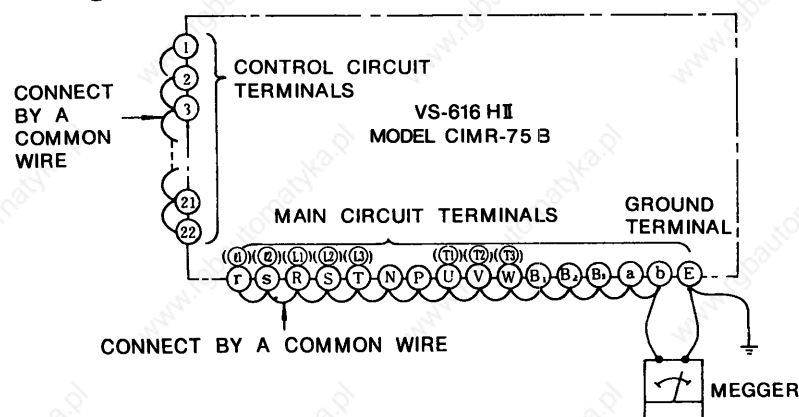

Fig 10 Connections for Megger Testing
Connect the AC input, output terminals (r(1), s(2), R(L1), S(L2), T(L3), N, P, U(T1), V(T2), W(T3), B₁, B₂, B₃, a, and b) by a common wire, and connect the control terminals ① - ②② (excluding ④, ⑪, ⑱) by a common wire as shown in Fig. 10. After that, measure the insulation resistance between the common wire of input/output terminals and ground with a megger. Never measure the insulation resistance of circuit other than the main circuit (power line). For both the input and output terminals, a reading above 1MΩ is considered satisfactory.